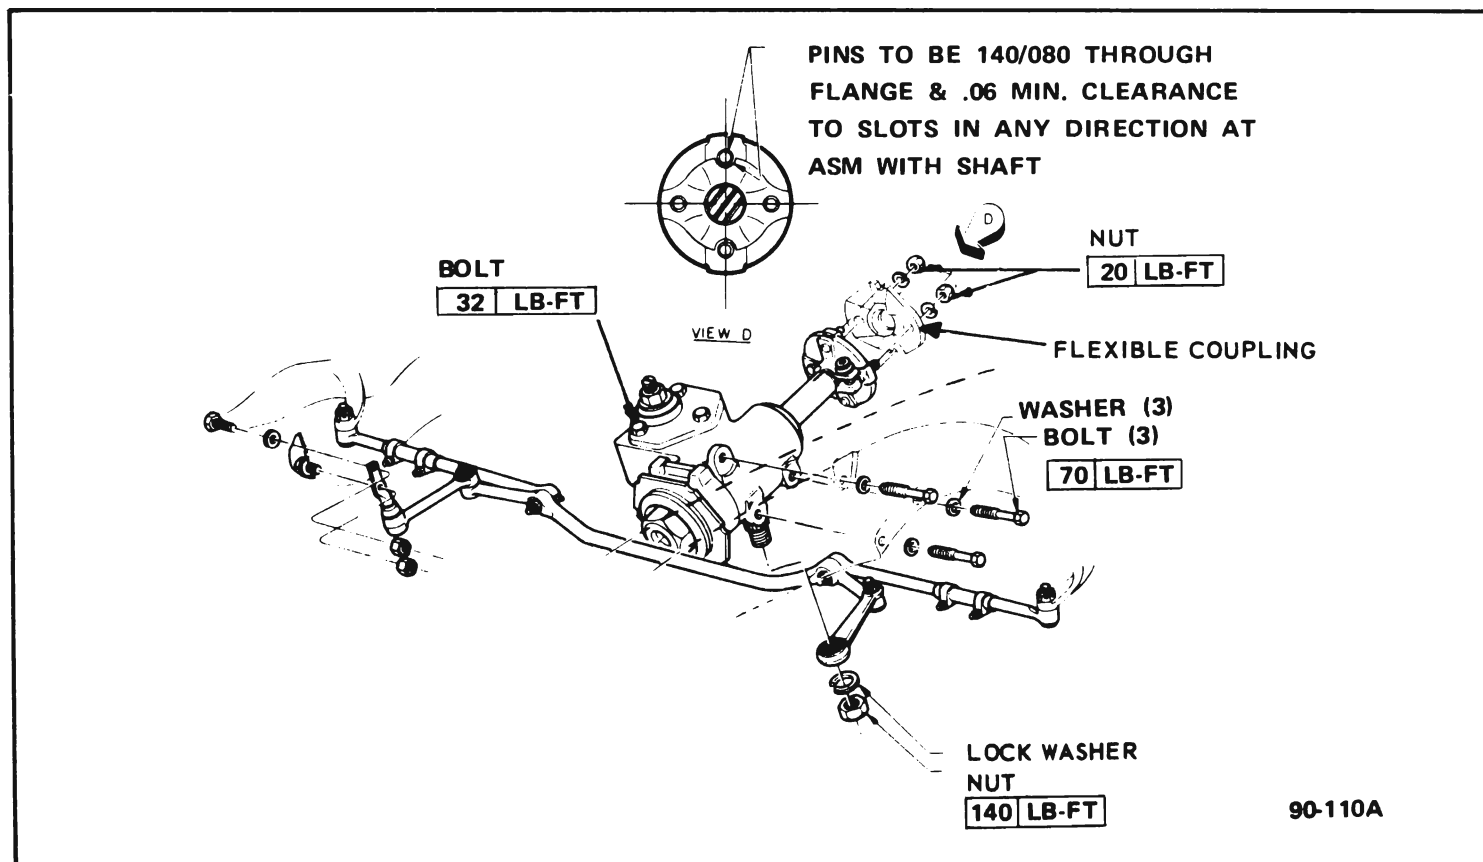

Figure 90-6 Manual Steering Gear Installation
3. Remove three steering gear to frame bolts and remove gear assembly. See Figure 90-6.